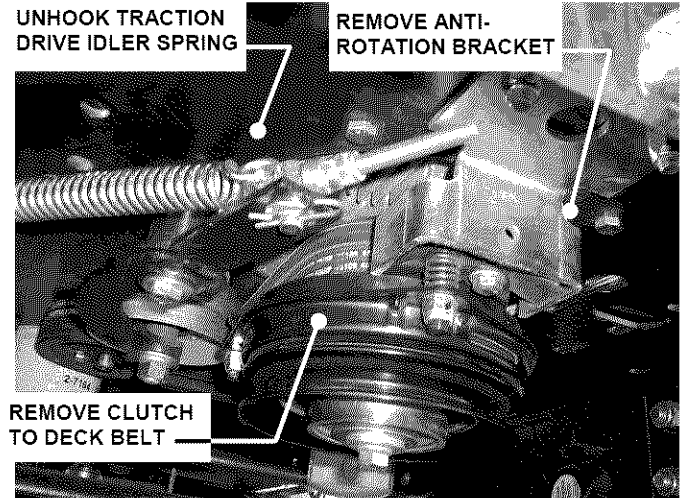

FIGURE 5.10
1. Remove clutch to deck belt. See Figure 5.10.
3. Remove anti-rotation bracket. See Figure 5.10
9. Reattach traction idler spring. Run lock nut all the way to the end of the threads on the J-Bolt. See Figure 5.10.